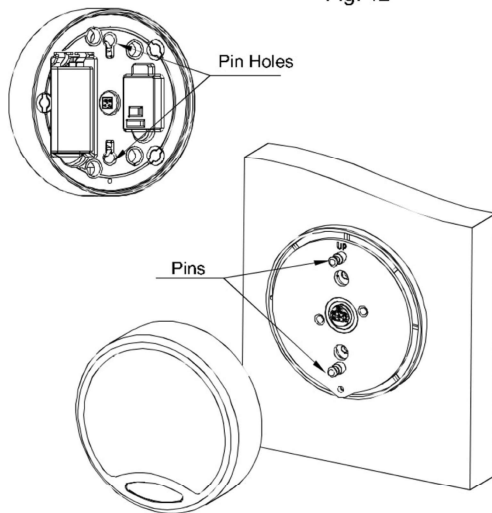

Fig. 13
2. Attach the Entrypad to Entrypad base with two pins on the Entrypad Base matching the two pin holes on the back of the Entrypad (Fig.13 & 14).